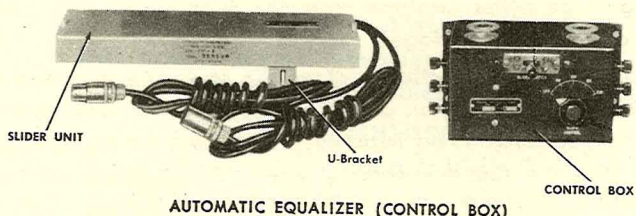

Figure 2. 160-A/B Automatic Equalizer.
(7) For chassis or cabinet models it is necessary to install the feed-screw and crank handle. Refer to section II, paragraph 1f.
**c. Automatic Equalizer (fig. 2).** For installation of the automatic equalizer it is necessary to attach the slider unit to the equalizer-mounting bracket. Proceed as follows:
(2) For automatic equalization, make sure the tongue at the rear of the overhead mechanism fits into the U-bracket slot (fig. 2) on the slider arm so that the arm will move across the surface of the disc as the cutter head moves.
(3) The U-bracket is engaged by pushing the tongue up into the slot. cutter head moves.
## 2. 160-A AUTOMATIC EQUALIZER (fig. 2).